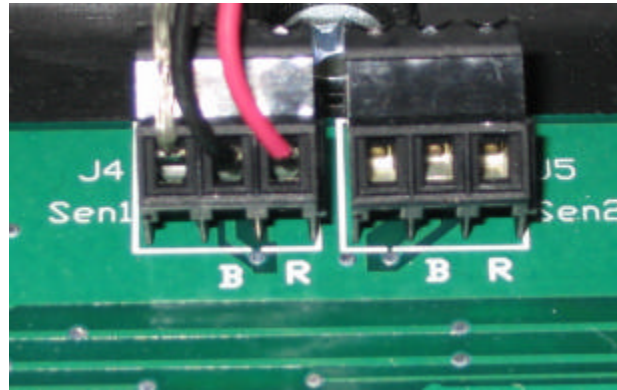

Figure 25
Connect the ribbon cable from the adjacent module to the J10 connector and if there is another module connect it to the J11 connector with another ribbon cable. Connect transducer 1's red wire to the (R) position of the J4 terminal block and the black wire to the (B) position. Optionally the shielding of the transducer may be connected to the remaining position on J4. Connect transducer 2 to the J5 terminal block. Terminal blocks J6 – J9 can provide switch signal outputs for high alarm (HAO), normal (NmO) and low alarm (LAO), each output signal has a corresponding ground input (GIN). Transducer 1 outputs on J8 and J9 and transducer 2 outputs on J6 and J7. (See Figure 25.)